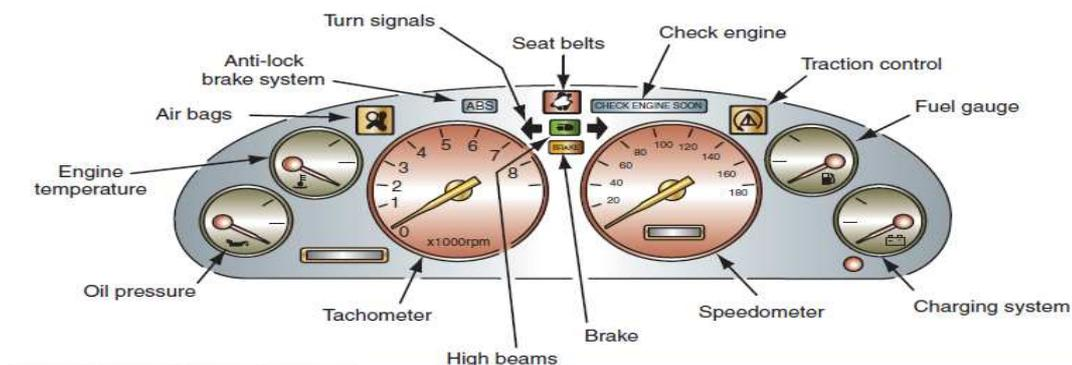

Fig.5
25. a) Typical instrument clusters of a passenger car are shown in the Fig.5 brief the operation of each tells tales (parameters) which are shown. Also discuss locate the sensors position and operation if available for these tell tales.